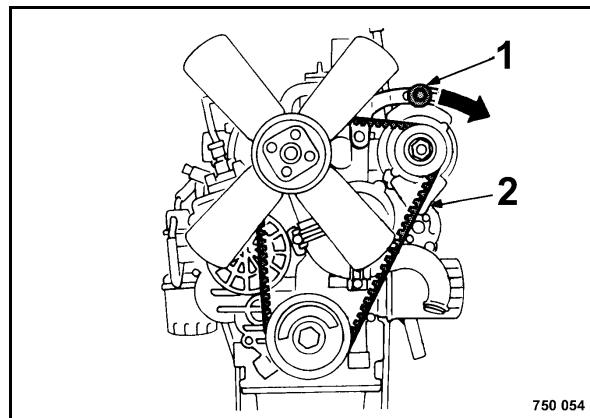

Fig. 101
- Slacken the fastening screws 1 and 2 (Fig. 101) slightly.